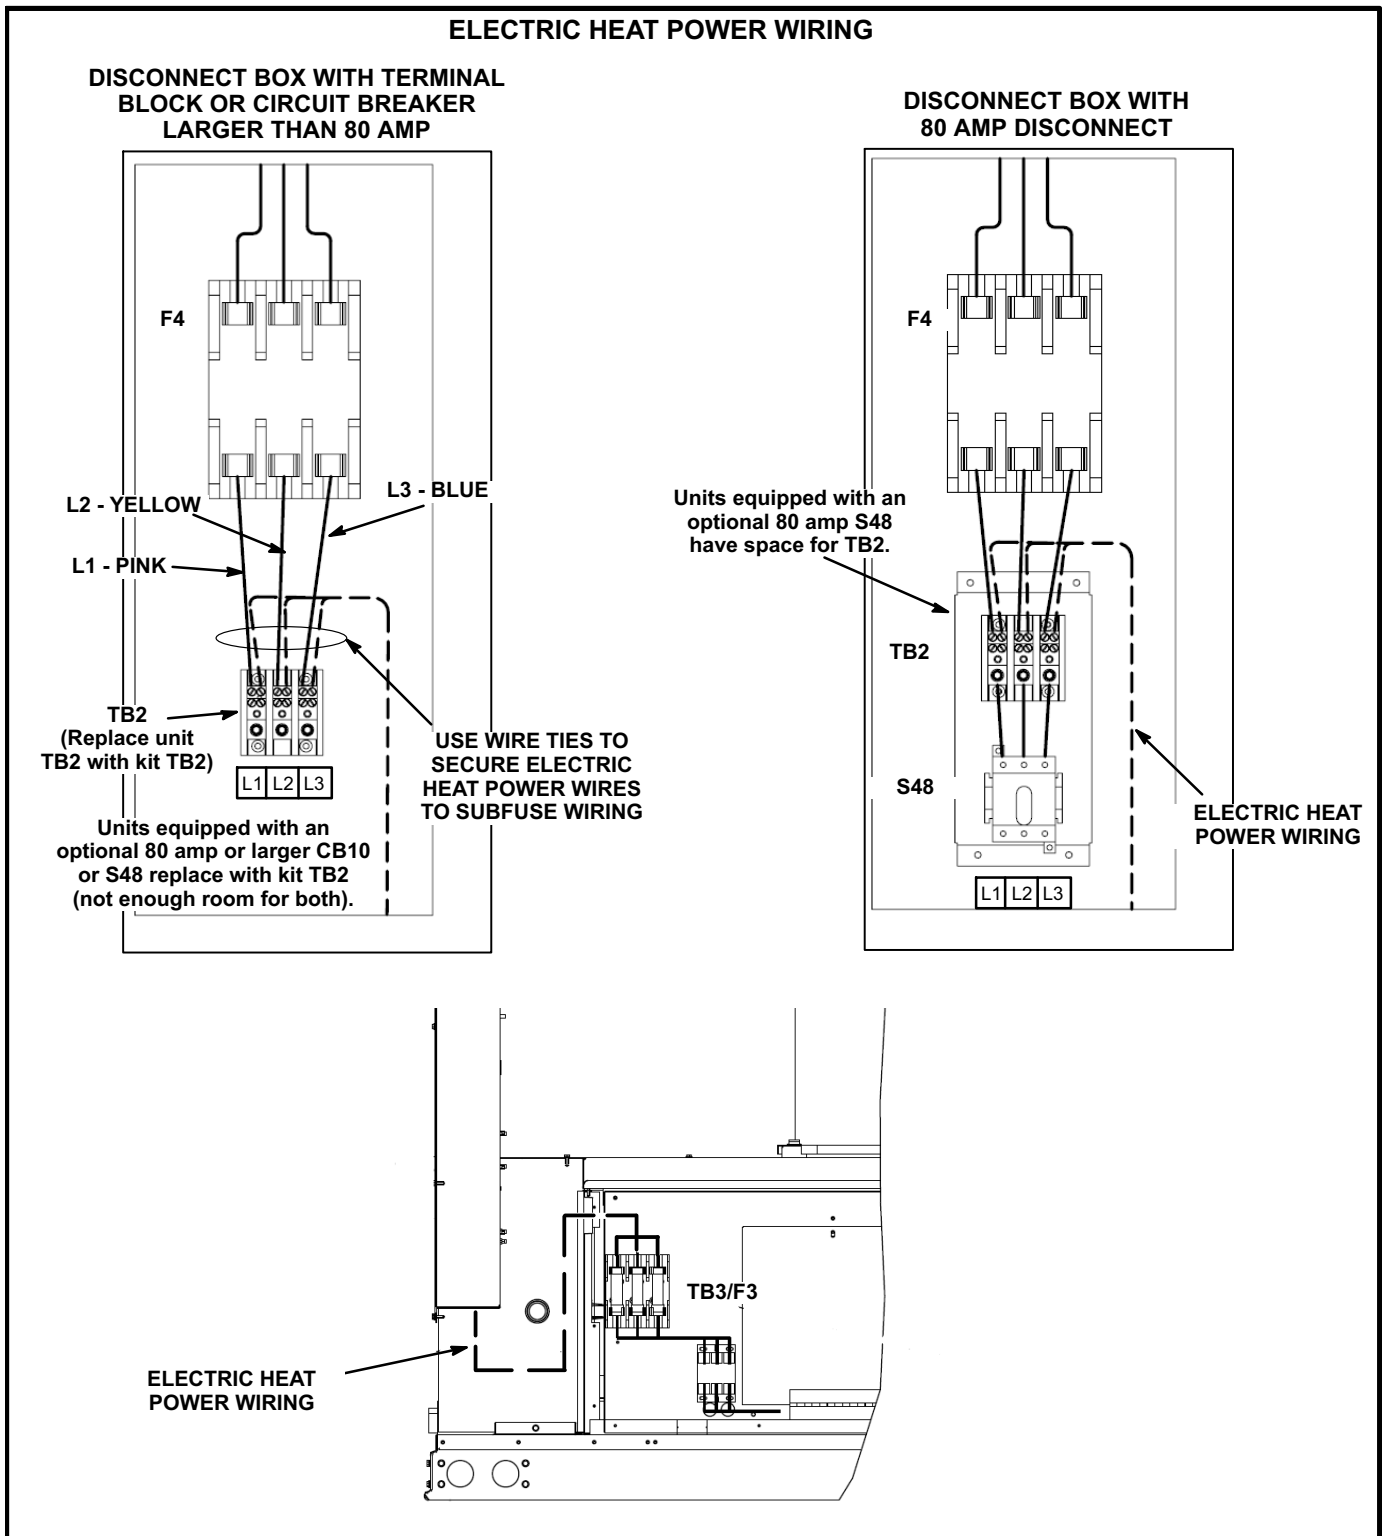
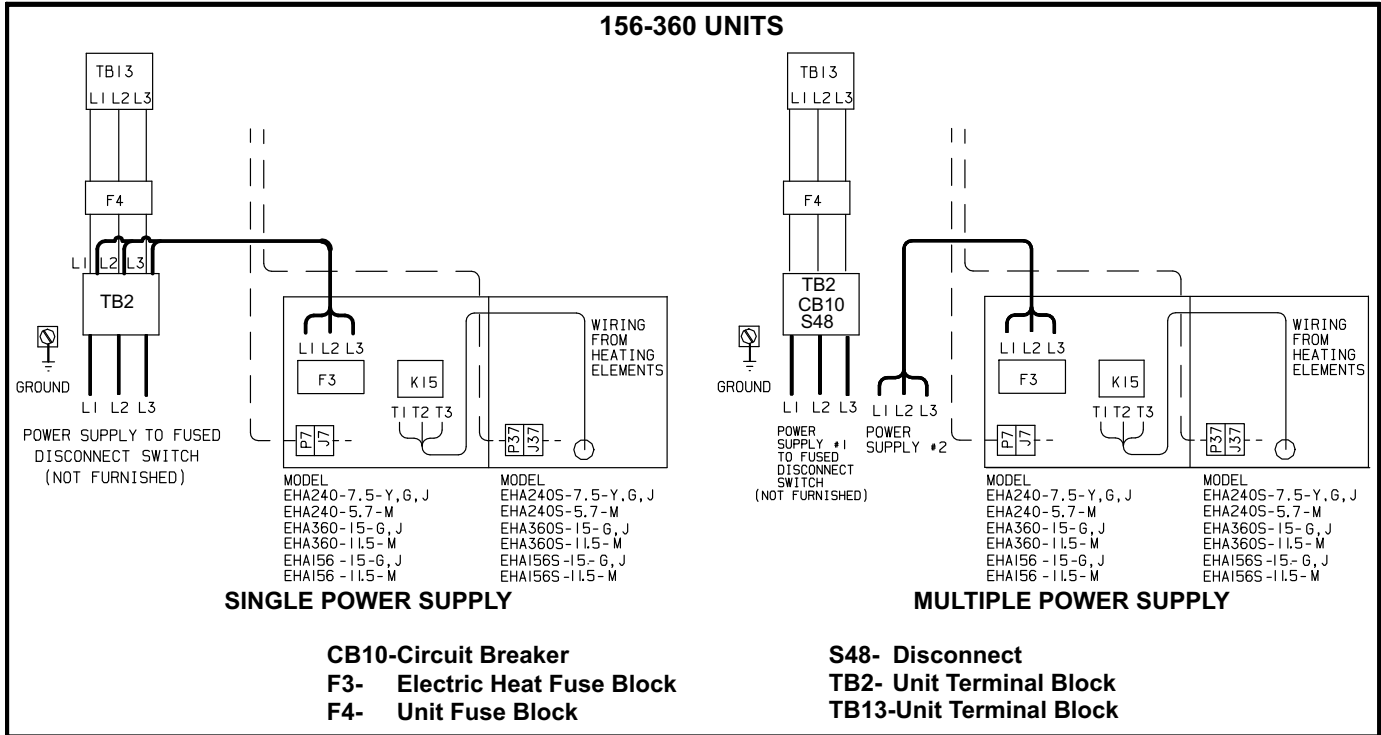

FIGURE 4
FIGURE 5
- 2- Connect electric heat power wiring to unit terminal block TB2 as shown in figure 4. Also see figure 5, 6, or 7 depending on the options included on the electric heat assembly.
- 3- Route the other side of the electric heat power wiring through the bottom of the disconnect box and the side of the electric heat compartment. Connect power wiring to electric heat fuse block F3 or electric heat terminal block TB3. See figure 4.